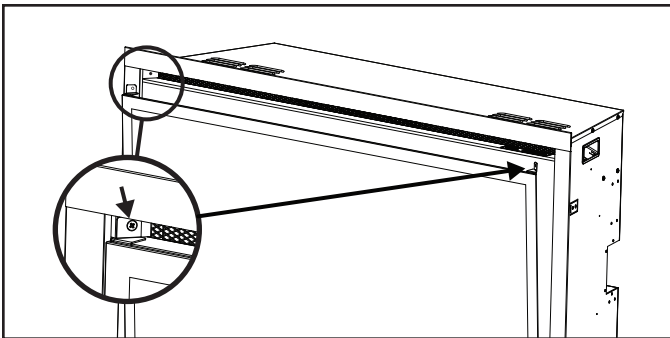

Figure 7.1 Glass Removal
2. Remove the two (2) ST4x8 screws that hold the glass in place, and remove the glass. See Figure 7.1.